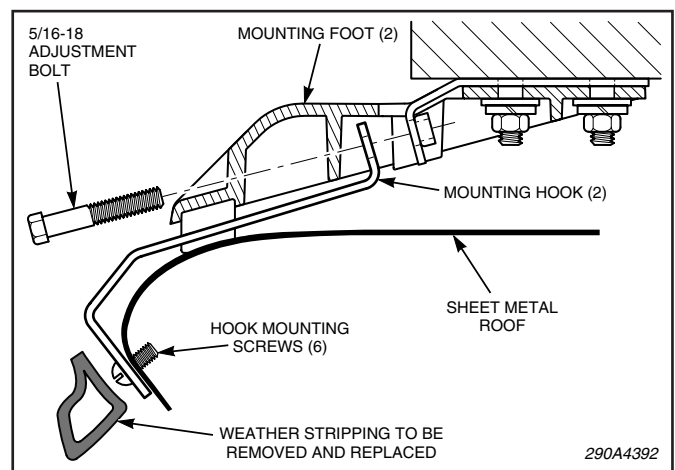

Figure 1.
3. Drill three (3) .147" diameter holes (#26 drill bit) at the drill position marks.
4. See figure 1. Apply a silicone sealant around the holes before attaching the hook. Secure the hook using three #10 thread-forming sheet metal screws. Assemble the hook on the mounting bracket using the appropriate 5/16-18 hex head bolt (finger-tight only).